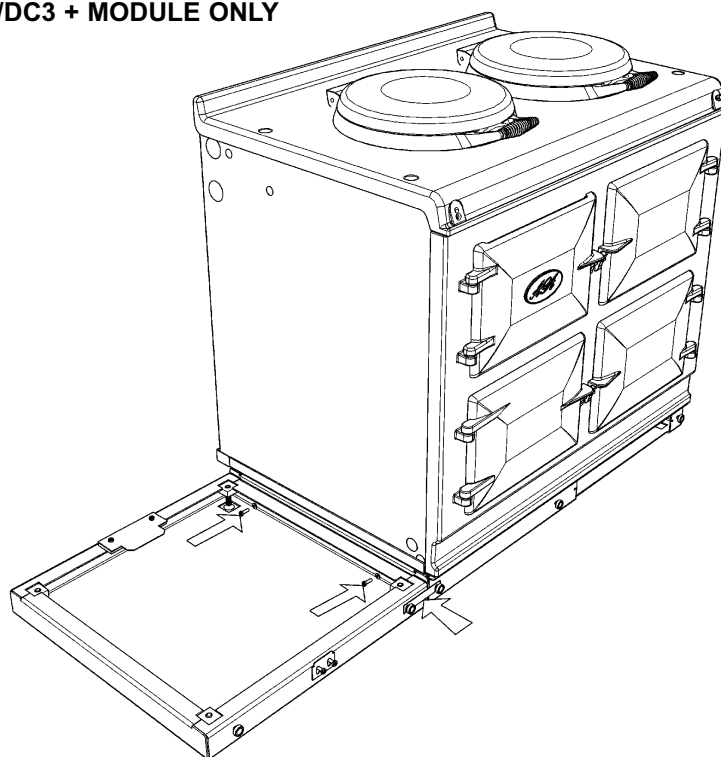

Fig. 7
6. Attach Module plinth to the AGA Total/Dual Control plinth using 2 M6 screws and washers provided (See Fig. 7 or 7A). Slide front jointing bracket into place over two adjacent magnets, locking the two appliances together.